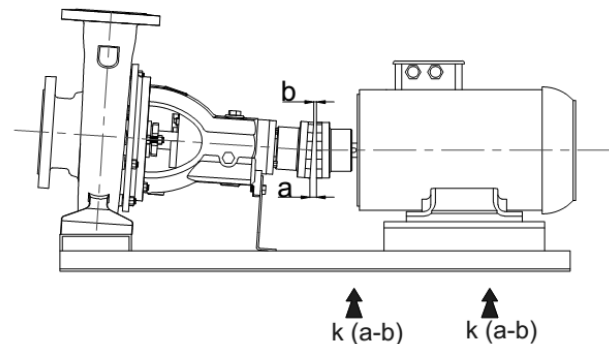
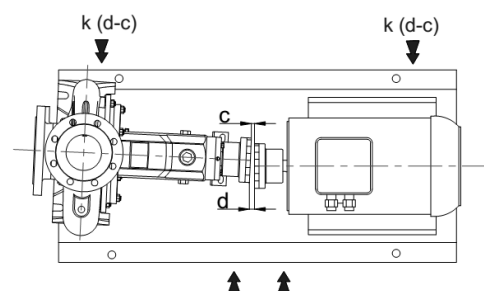

Figure 5: Angular Misalignment in Vertical Plane and Its Correction
Figure 7: Angular Misalignment in Horizontal Plane and Its Correction
2. Angular Misalignment (Figure 5-Figure 7)